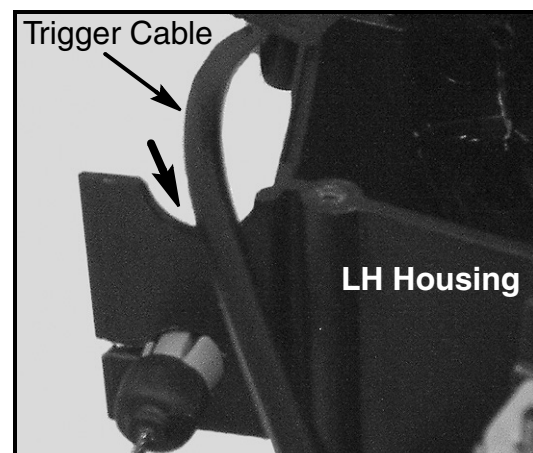

FIGURE 12
21. Before replacing the RH housing onto the LH housing ensure that the trigger cable is set in the half slot as shown in Figure 12.